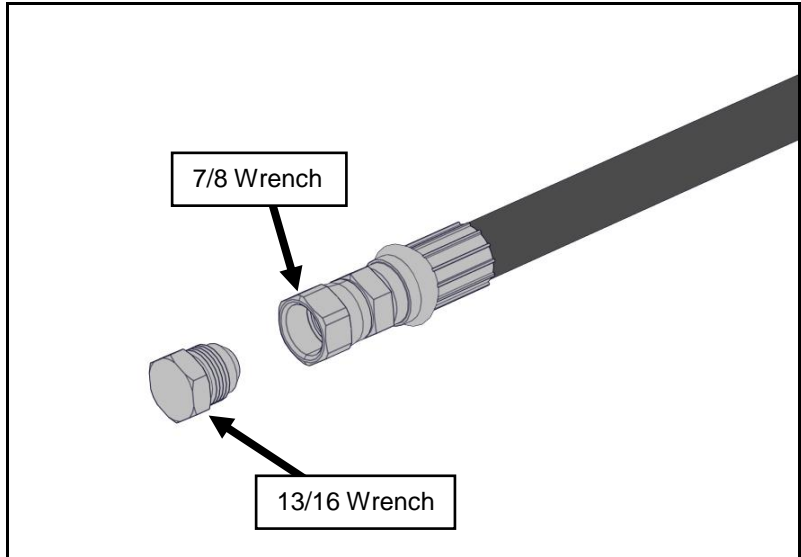

Figure 6 – Using the remote drain
- 1) Clean the area around the drain plug to prevent contamination (Figure 6).